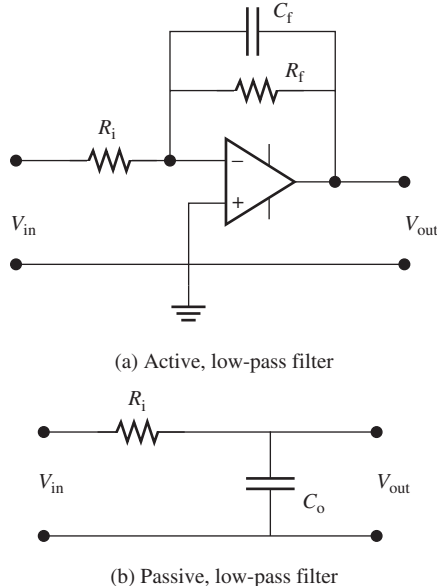

FIGURE P11.29 (a) Active and (b) passive low-pass filters.
- 11.29** (A) Find the gain of the two low-pass filters shown in Figure P11.29, and analyze their pros and cons.